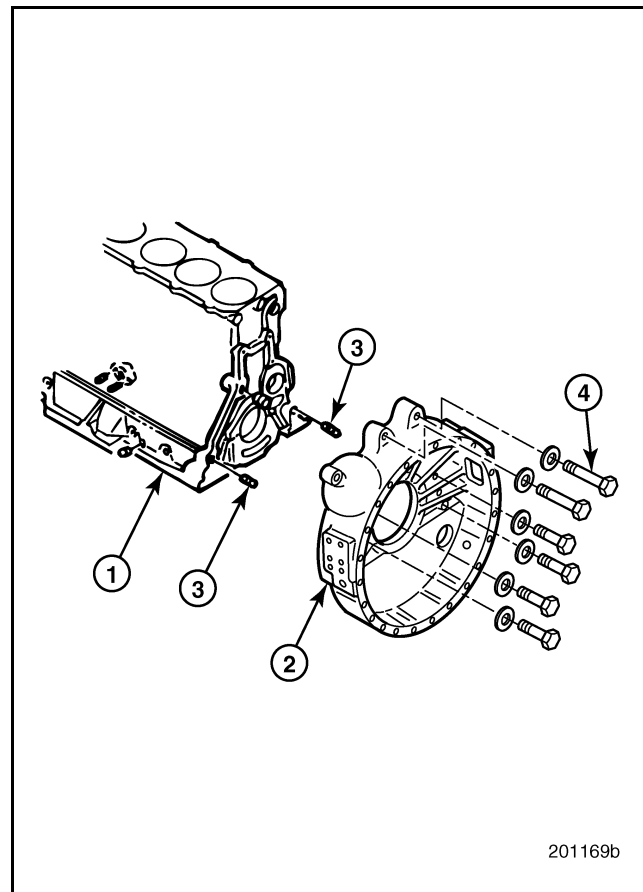

Figure 337 — Flywheel Housing Installation
3. Insert the two dowel pins in the cylinder block if they were removed. Refer to Figure 337.